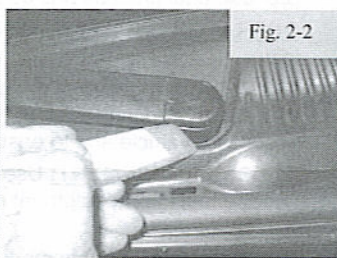

Fig. 2-2
- (c) Use a non-scratch pry tool to remove wiper mounting nut covers. (Fig. 2-2)